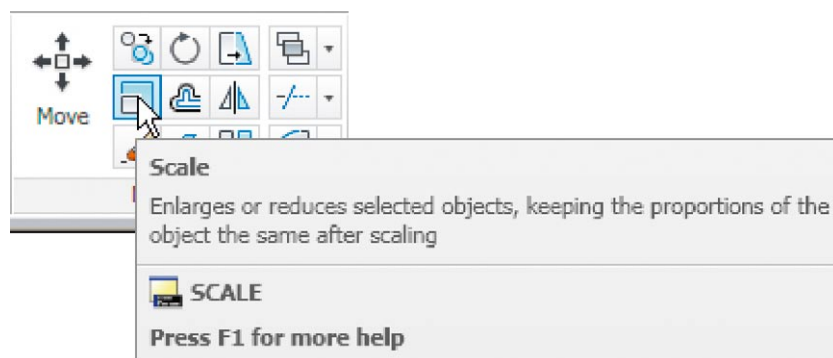

Fig. 5.28 The **Scale** tool from the **Home/Modify** panel
2. Call **Scale** – *left-click* on its tool icon in the **Home/Draw** panel (Fig. 5.28), *pick Scale* from the **Modify** drop-down-menu or *enter sc* or *scale* at the command line which then shows: